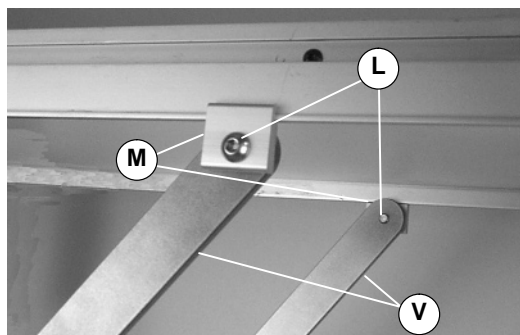

Figure 7
- 7a. Loosely attach brace bars (V of Figure 7) to conveyor using clips (M) and screws (L).